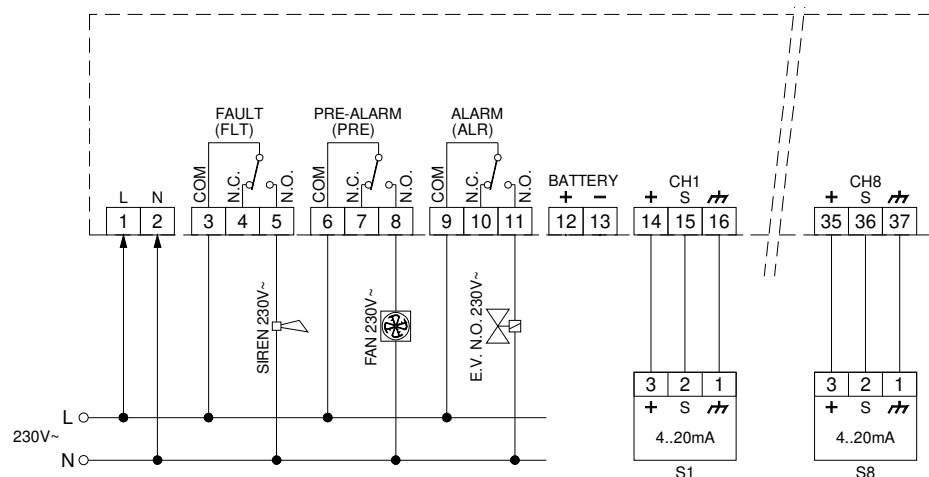
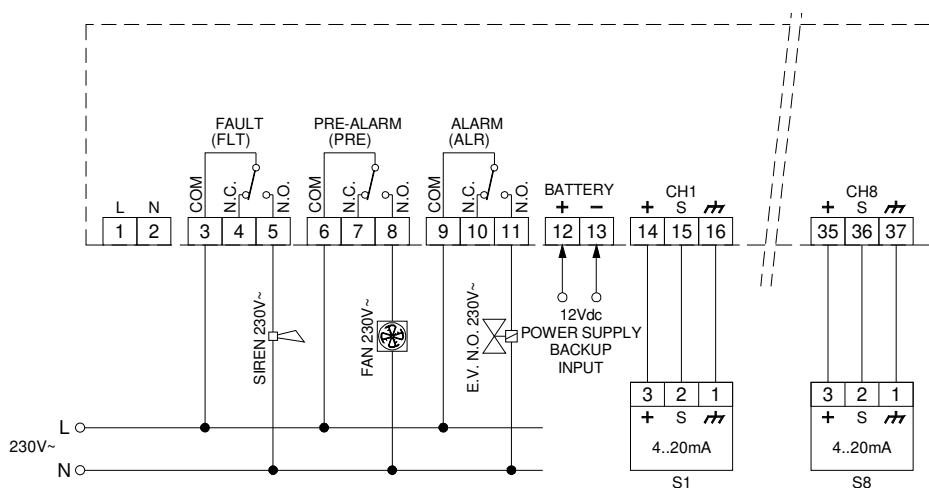

Fig. 4: Diagram of connection with control unit powered at 230V~.
Fig. 5: Diagram of connection with control unit powered through an external 12Vdc power supply unit with buffer battery.
- Make the electric connections as indicated in the paragraph 'Electric connections' in accordance with the diagrams in Fig. 4 and Fig. 5.
Carefully read below and compare with the wiring diagram of Fig. 4 showing the disposition of the terminals, the internal circuit and the connections with the external components.